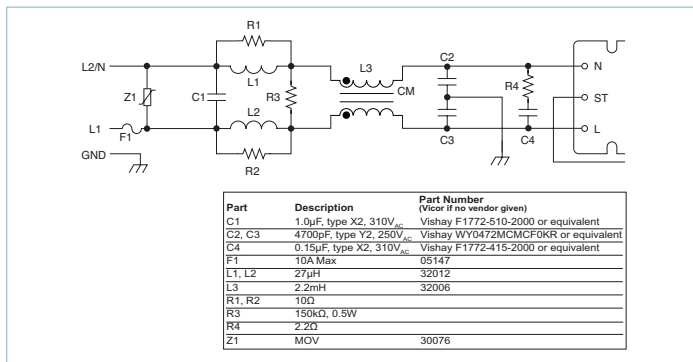

Figure 7.6a — Recommended filter design; low-power filter connection for VI-ARM-x1
**Filter:** Two input filter recommendations are shown for low-power VI-ARM-x1 and high-power VI-ARMB-x2. (Figures 7.6a and 7.6b)